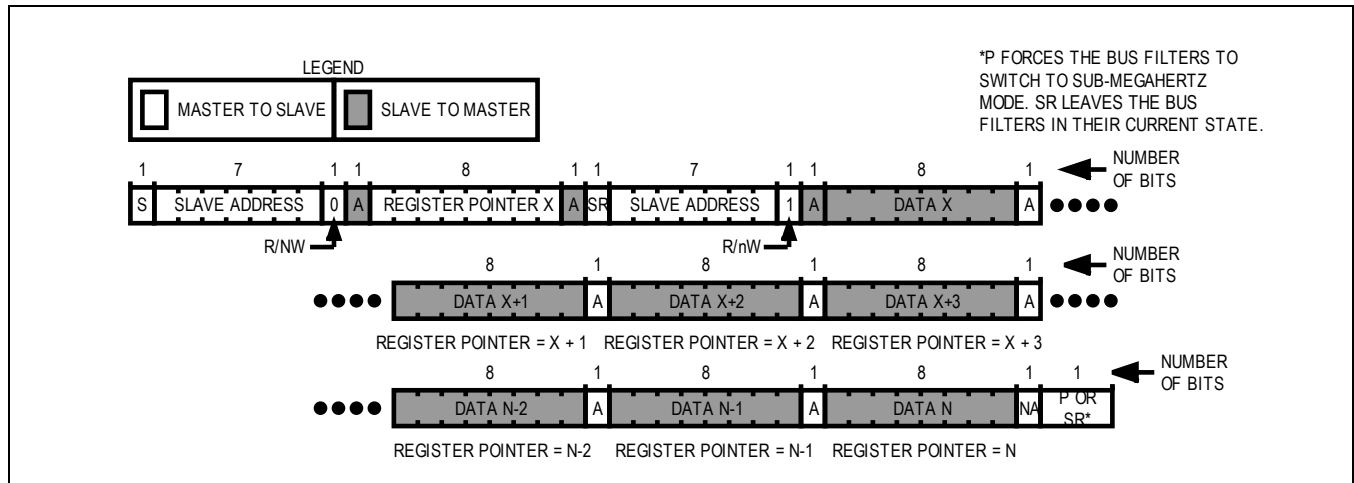

Figure 34. Reading Continuously from Sequential Registers X to N
Figure 34 shows the protocol for reading from sequential registers. This protocol is similar to the read-byte protocol except the master issues an acknowledge to signal the slave that it wants more data: when the master has all the data it requires it issues a not acknowledge (nA) and a stop (P) to end the transmission.